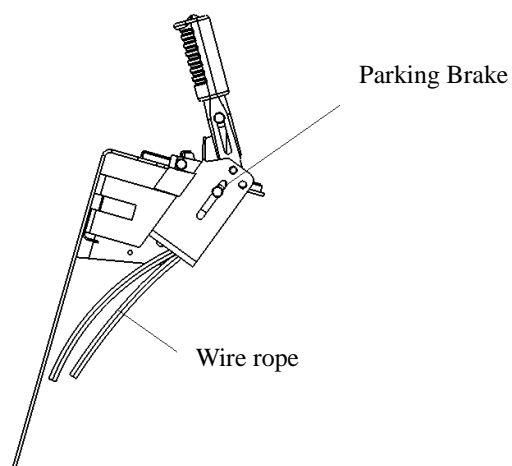

Figure 2-5 Parking bra
2.5 Control device of parking brake (Figure 2-5)